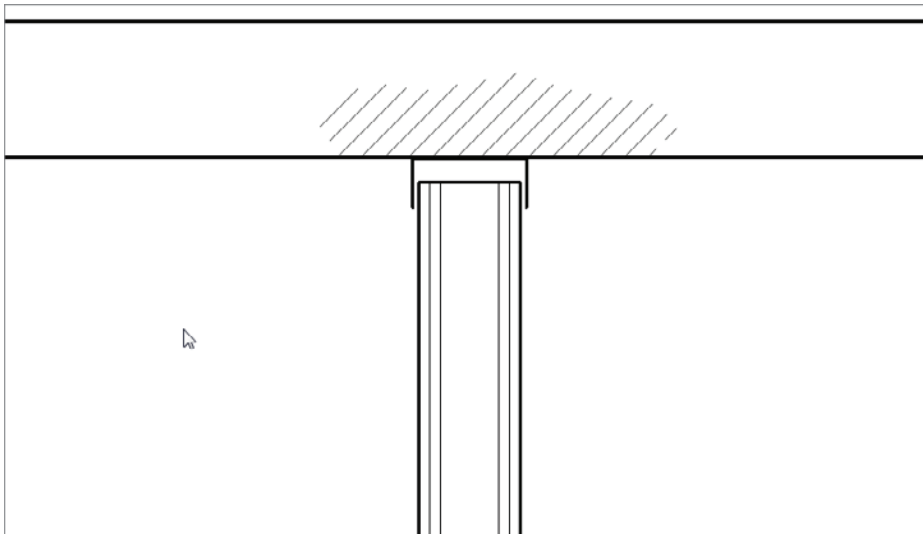

FIGURE 12.71 The detail with the hatching included
If you would like to venture out on your own, try to duplicate Figure 12.71. You'll need to add a filled region using diagonal lines. If you would rather follow the procedure, let's get started:
9. Click Finish Edit Mode on the Mode panel. Your pattern should look like Figure 12.71.